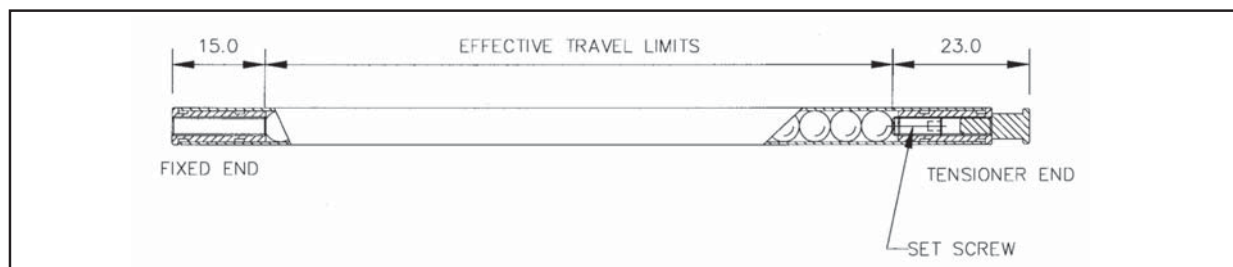

Figure 6.7 - The MHG Scale
- (A) Erroneous readings will occur if the MHG Reader Head is allowed to travel beyond Effective Travel Limits. (Refer to Figure 6.7)
- (B) The pre-load on the balls are factory set via the set screw at the tensioner end. Do not tamper with or adjust the set screw as this will alter the calibration and accuracy specification of the scale and void the warranty.